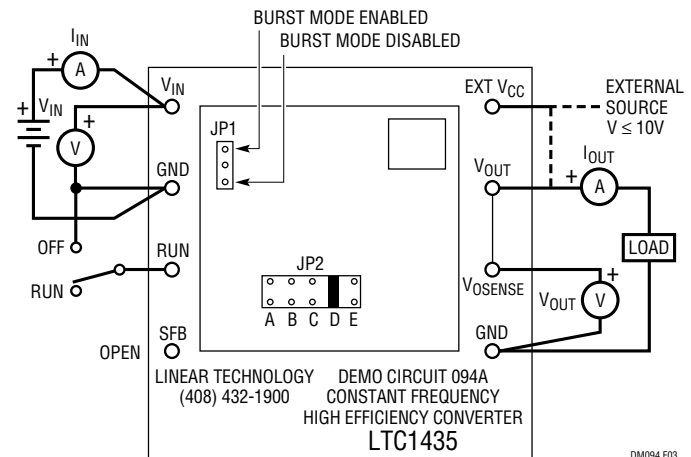

Figure 3. Proper Measurement Setup
1. Refer to Figure 3 for proper arrangement of monitoring equipment for correct measurement equipment setup.
terminal. The load should be placed across V_{OUT} (E6) to GND (E8). Measurements *should not* be taken at the end of test leads at the load. Refer to Figure 3 for the proper monitoring equipment configuration.